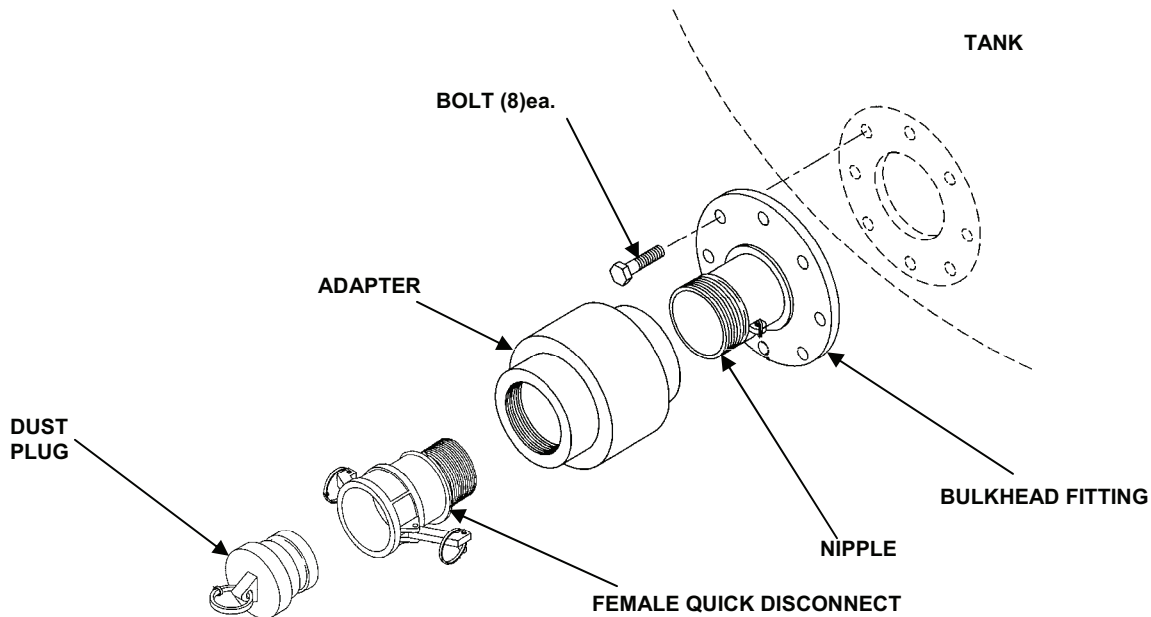

Figure 1. Settling and Product Tank Filler Fitting.
2. Unthread the female coupling from the adapter. See Figure 1.
4. Remove eight (8) bolts and remove the bulkhead fitting from the tank if necessary.
1. Install the bulkhead fitting and secure with bolts. See Figure 1.